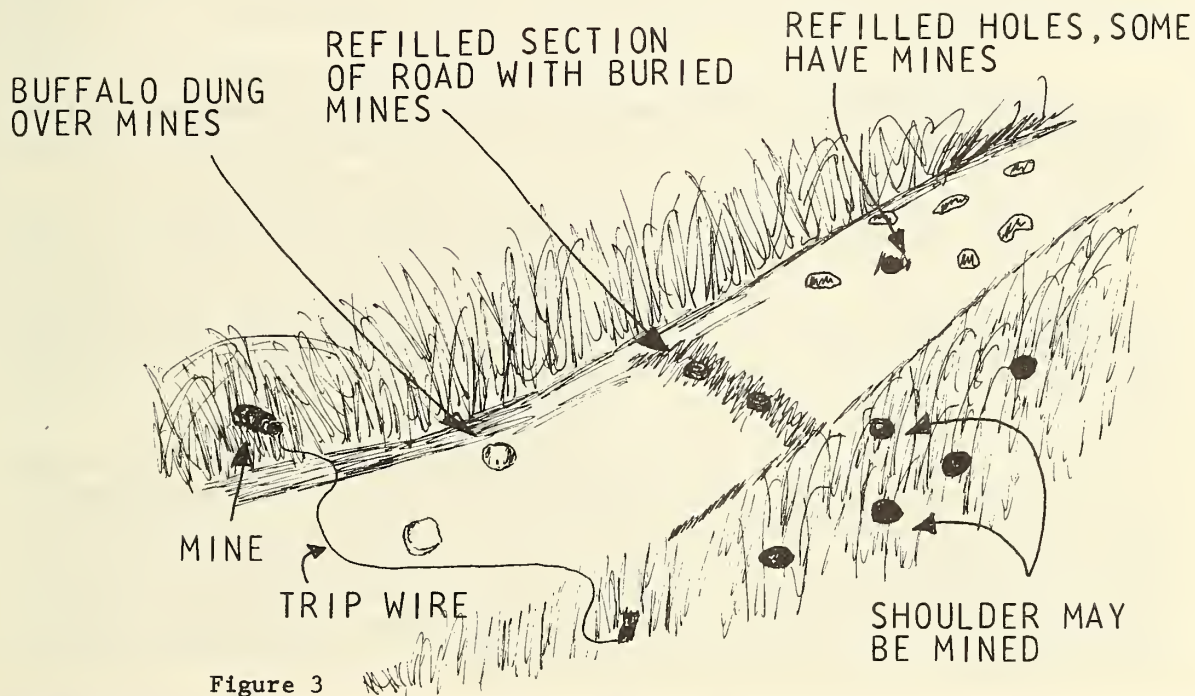

Figure 3
3. METHODS OF EMPLOYMENT ON DIRT ROADS AND TRAILS. (figure 3)